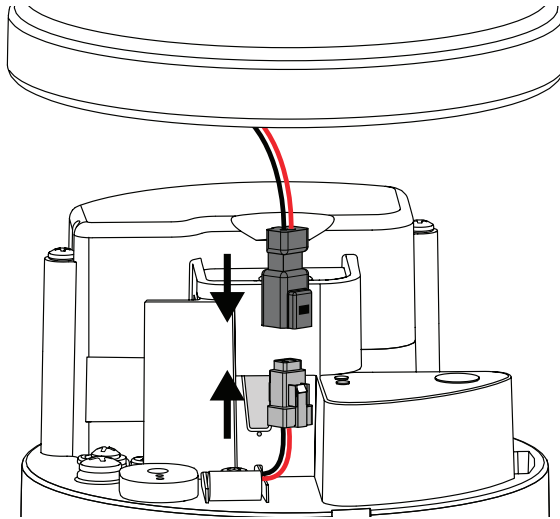

Figure 15 Connect pyranometer cable
3. Twist counter-clockwise to unlock from the ATMOS 41Gen 2 base until the lock/unlock graphic located on the side of the rain gauge funnel is lined up with the notch on the interface plate (Figure 15).
1. Reattach the pyranometer connector by mating the two halves of the white connector and seating them firmly together until the tabs lock (Figure 15).